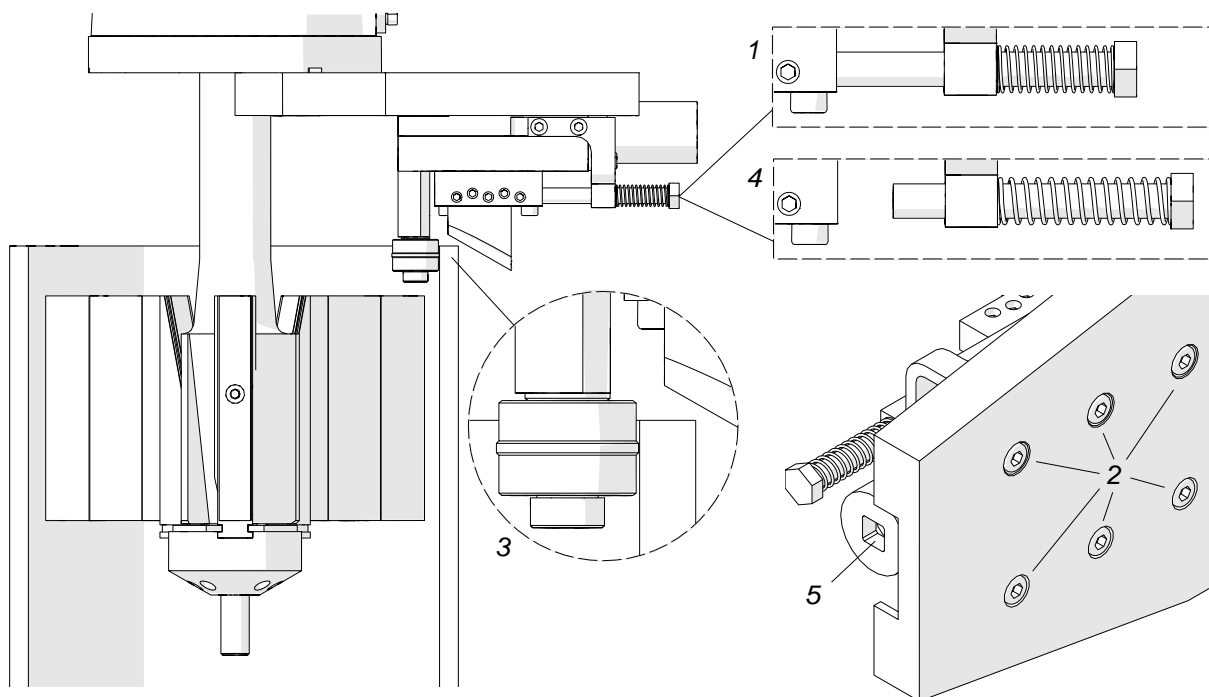

Fig. 12. Proper positioning of the oval attachment
Once the machine with the attachment is clamped inside the pipe, tighten the bumper screw to immobilize the tool bit holder (1, Fig. 12). Use the 6 mm hex wrench to loosen the guide screws 2. Place the attachment in such a way to bring the roller close to the lowest inside diameter of the pipe (3). Then, tighten the guide screws 2, unscrew the bumper screw (4), and use the 1/2" ratchet wrench to initially tighten the spring 5.